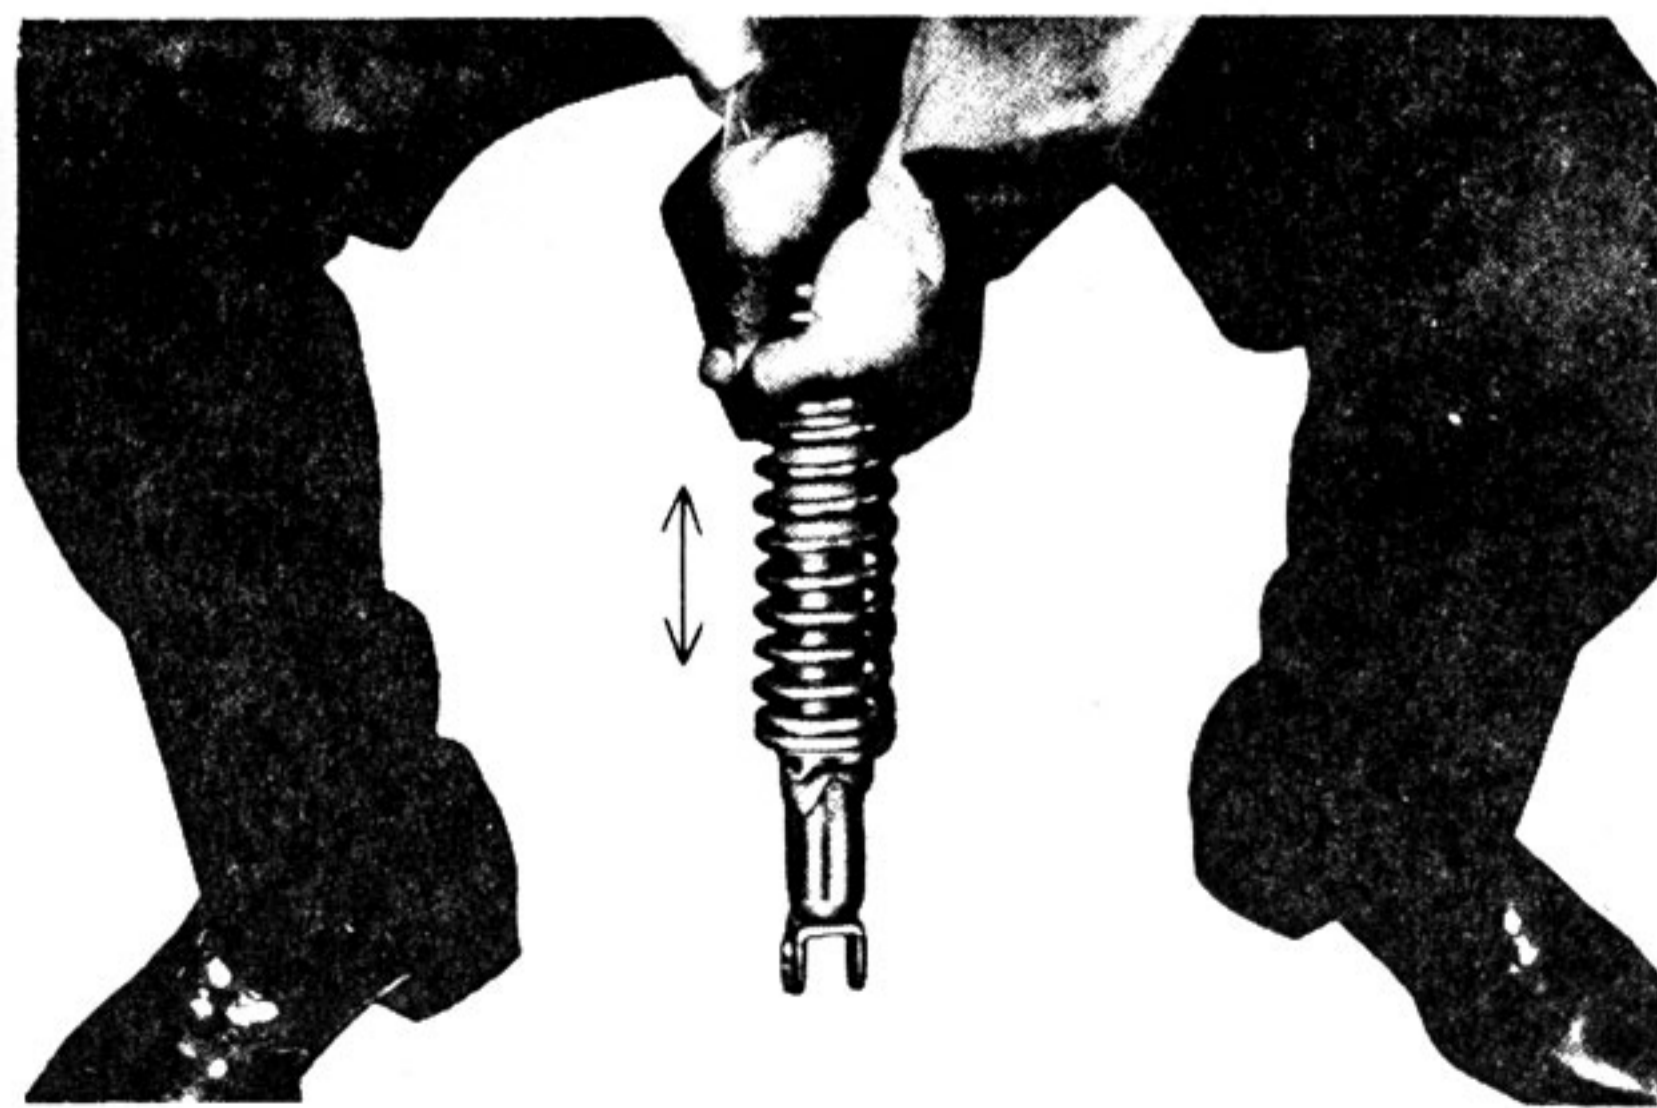

Fig. 5-8-1
- (1) Remove the rear cushion, and repeatedly depress the cushion a few times. If the spring quickly rebounds half-way, and slowly the last 10 mm, the cushion is in good working condition. If the spring quickly rebounds all the way, the cushion must be leaky. Replace it with a new one. (Fig. 5-8-1)